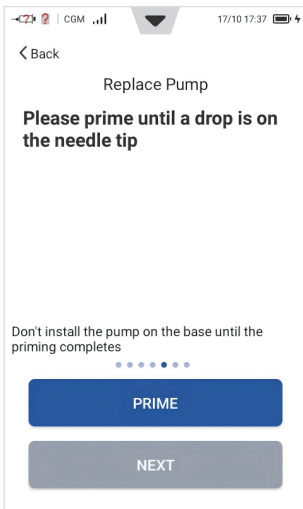
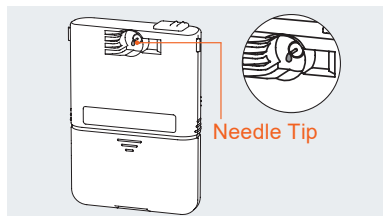

Figure 44
Figure 45
3. Holding the pump in the orientation shown in Figure 45, press "PRIME" button (Figure 44). The plunger will begin to move slowly. Continue to press the button until you see a drop of insulin on the needle tip (Figure 45). Now press "NEXT".